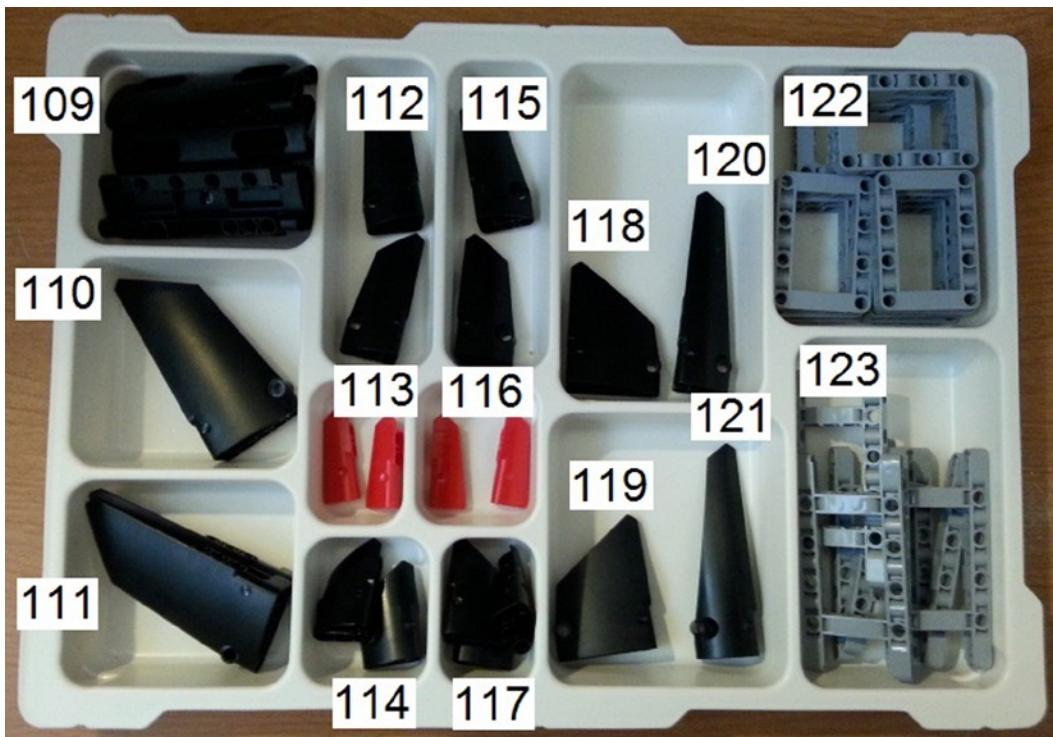

Figure 1-17. A collection of some Wings and Panels from LEGO MINDSTORMS
Most of these pieces have a wing shape, which is where their name derives. You will notice that each of the wings has a designated left side and right side. As for the panels, they are more rectangular and good for structure. Figure 1-17 shows them in storage.
Referring to Figure 1-17, the numbered wings and panels are as follows:
- Panel, Decorated. Also like the pieces in Figure 1-17, but these often have stickers or some type of graphics on them.